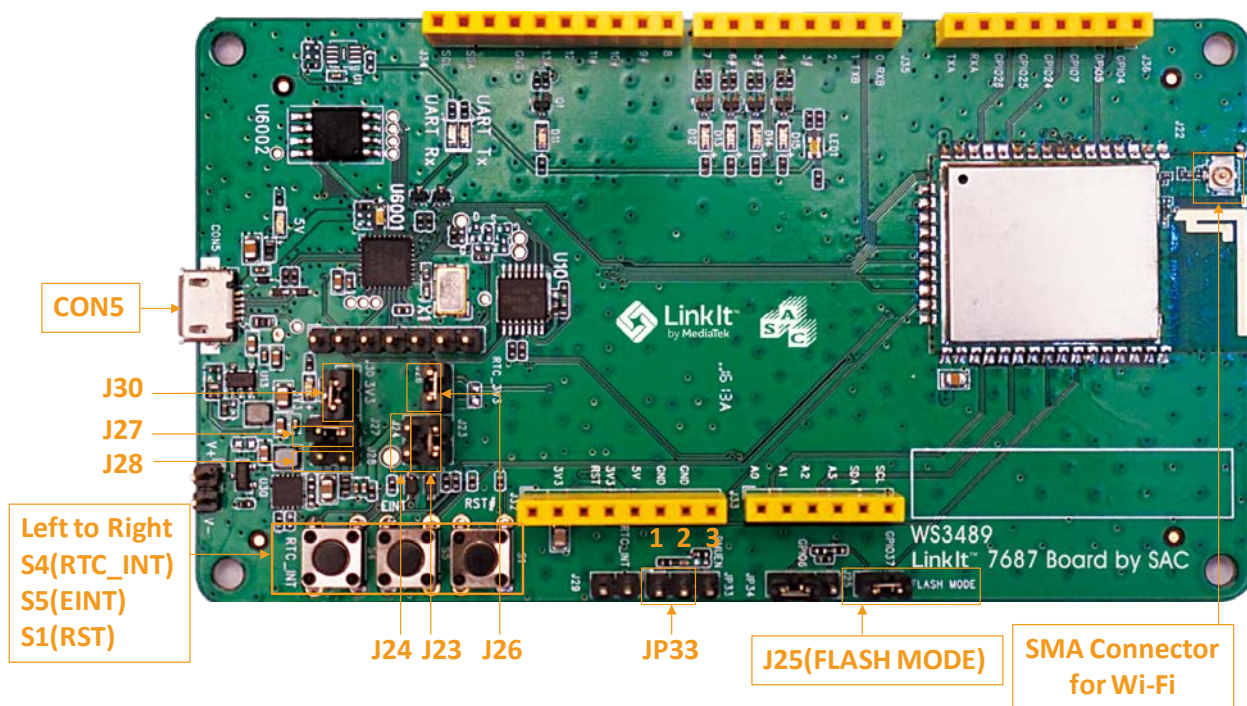
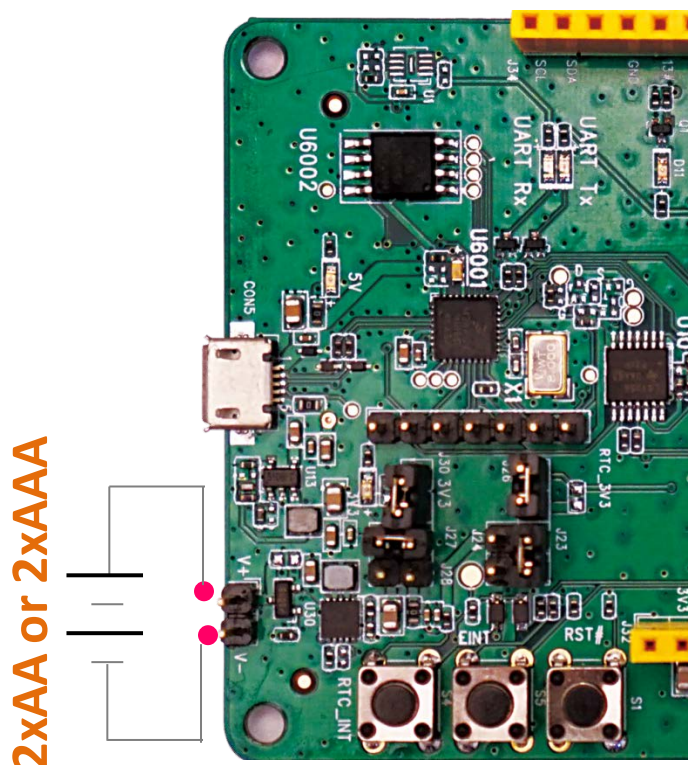

Figure 1. Top view of the LinkIt 7687 HDK
Figure 4. Power up the HDK using an AA or AAA Battery (J21)
LinkIt 7687 HDK includes a main board and a MT7687F stamp module. The MT7687F stamp module is mounted on the main board. The top view of the main board is shown in Figure 1.
The description of pins (Figure 1) and their functionality is provided below.
- 1) Set the jumper **J25** to **FLASH Recovery** mode, as shown in Figure 1. The jumpers **J23**, **J26**, **J27** and **J30** should be on.
The development board should now be connected to the PC, as shown in Figure 1.
An on-board switching regulator provides voltage of 3.3V for the LinkIt 7687 HDK based on MT7687F, if the power is supplied from an on-board micro-USB connector **CON5** (Figure 1). This supply can be isolated from the switching regulator using the jumpers. Note that the jumpers **J27**, **J30**, **J23** and **J26** are required to be set on. More details on the jumpers can be found in Table 1.
- Connect an external AA battery to battery pin header (**J21**) to supply power to the system, as shown in Figure 4. When use AA battery ,please plug the USB to micro-USB connector CON5 (Figure 1).Note that the jumpers **J28**, **J30**, **J24** and **J26** are required to be set on. More details on the jumpers can be found in Table 2.